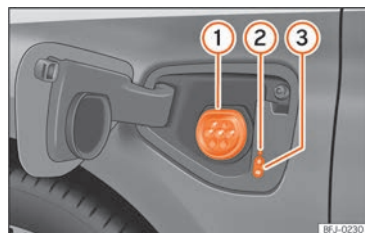

Fig. 55 Behind the battery charging cover on the front left-hand side: Charging socket
>>> Fig. 55
- With the vehicle unlocked, the battery charging cover opens when it is pressed >>> Fig. 55.